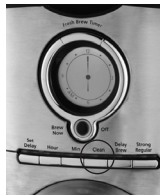

Figure 10
4. Press the CLEAN button until the red CLEAN indicator light turns on (Figure 10). For your convenience the cleaning cycle is automatic. The entire cycle will take 45-60 minutes to complete. During the cleaning your coffeemaker will: